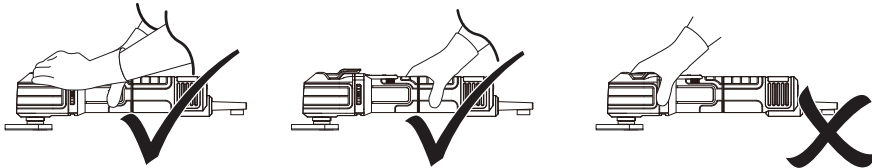

Fig. 15
- > Always hold the product firmly by its hand grip (3) during operation. Do not cover the air vents (Fig. 15).